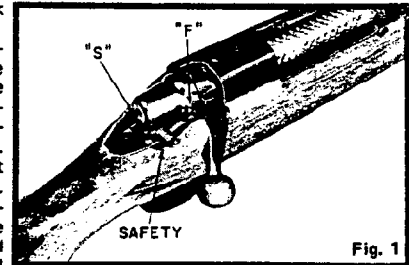

Fig. 1
**SAFETY (Fig. 1)** — To engage safety to **ON SAFE** position, rotate to rear stop position marked "S" on receiver. Bolt handle will be locked down and rifle will not fire. When rotated forward to fire position, marked "F" on receiver, safety will disengage. Trigger can be pulled to fire rifle or bolt handle raised to open action. **CAUTION:** Before firing, make sure barrel is clean, free of heavy oil, grease, or any obstruction. **TO SINGLE LOAD** — Raise bolt handle and pull rearward to open action. Place cartridge upon magazine follower or directly into chamber. Put safety **ON SAFE**. Close bolt. Lower bolt handle to lock action.
**TO MAGAZINE LOAD** — Open action. Load cartridge into magazine in conventional manner. Magazine may be loaded with four (4) standard caliber cartridges. Magnum magazine capacity is three (3) cartridges. If cartridge is loaded in chamber put safety **ON SAFE** before closing bolt.